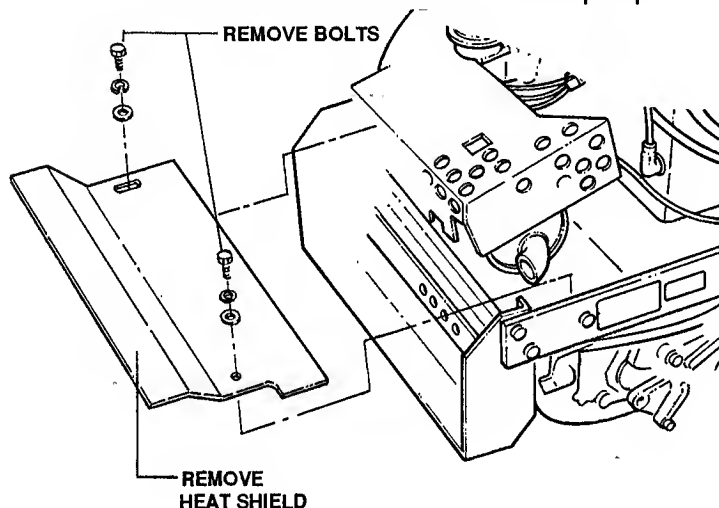

FIGURE 4.4
- D. With the joystick all the way down, start the engine and observe both axles. If they rotate, remove the two bolts shown in Figure 4.4. Also, remove the heat shield. You should then be able to look directly down at the area where the control cables hook to the control arms on the pumps.